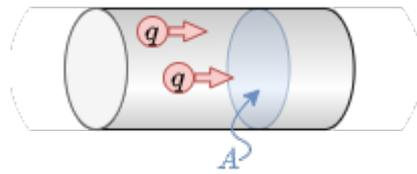

Fig. 11: Part of a Conductor
- In the thought experiment, let the following be given (see figure 11):
- In the case of a uniform charge transport over a longer period of time, i.e. direct current (DC), the following applies: